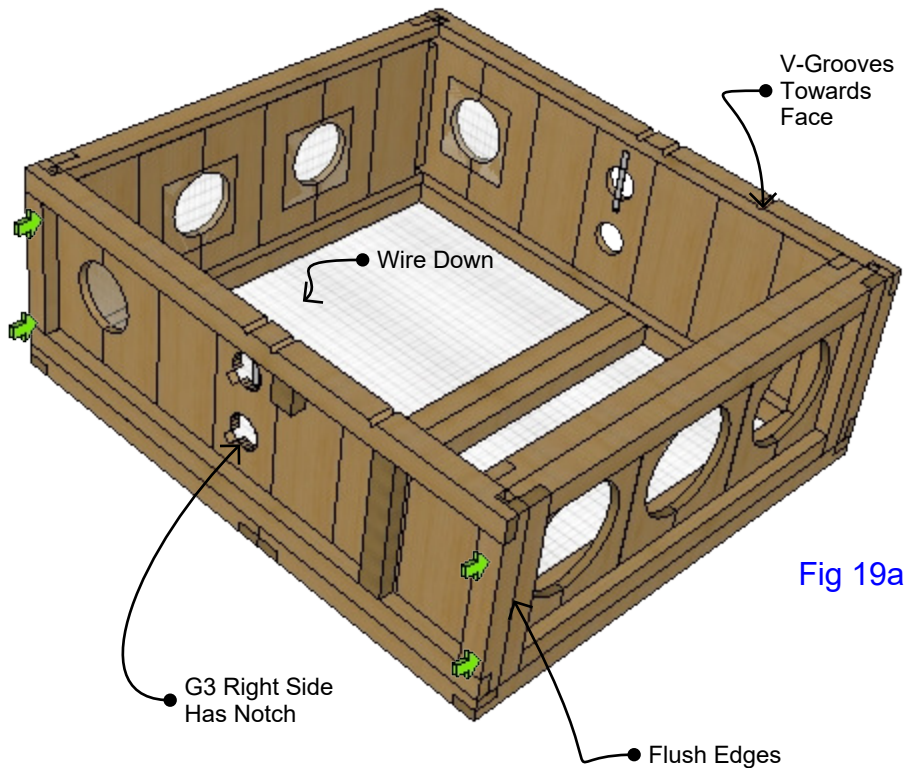

Fig 19a
19.2 Screw In Sides - Carefully flip the assembly over, align sides to face and front panels and when edges are flush, use E1 Brown Screws to attach sides to front and face panels. See Fig 19a.